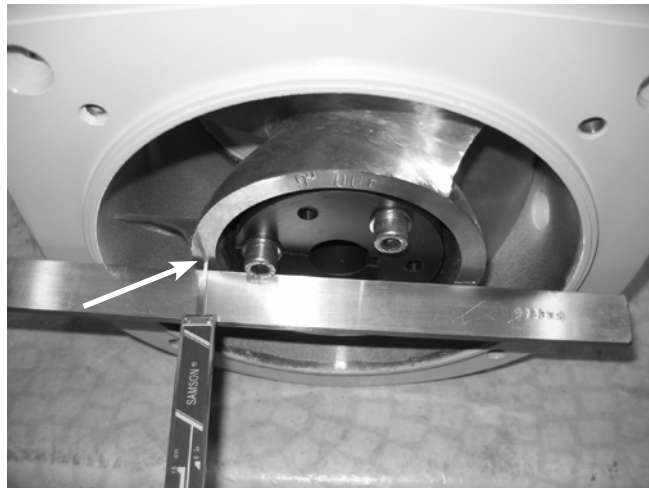

Figure 3.4-3
2. Place a straight ruler against the rear edge of the cone as indicated in figure 3.4-3 and measure the distance from the rear edge of the cone to the rear edge of the impeller.